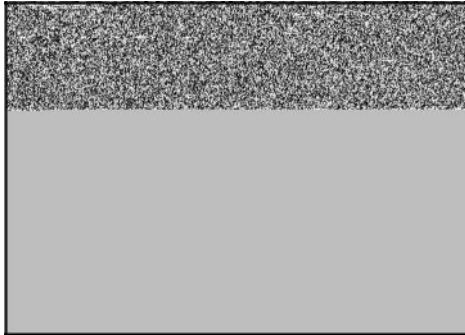

Figure 16
3. Assemble washer (C, Figure 16) to puller screw (D) and insert through small end of removal driver (B). Place open side of support (A) against ball bearing with cutout over idler gear shaft.